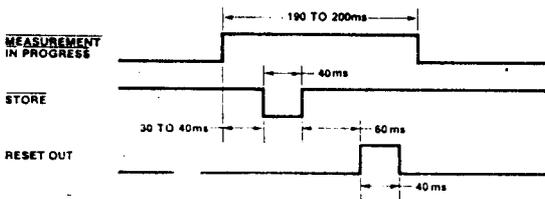

Figure 5: RESET OUT, STORE, and MEASUREMENT IN PROGRESS Outputs Between Measurements.
- These Outputs are provided to facilitate external interfacing. Figure 5 shows the relationship between these signals during the time between measurements. All three outputs can drive a low power Schottky TTL load. The MEASUREMENT IN PROGRESS output can directly drive one ECL load, if the ECL device is powered from the same power supply as the ICM7226.